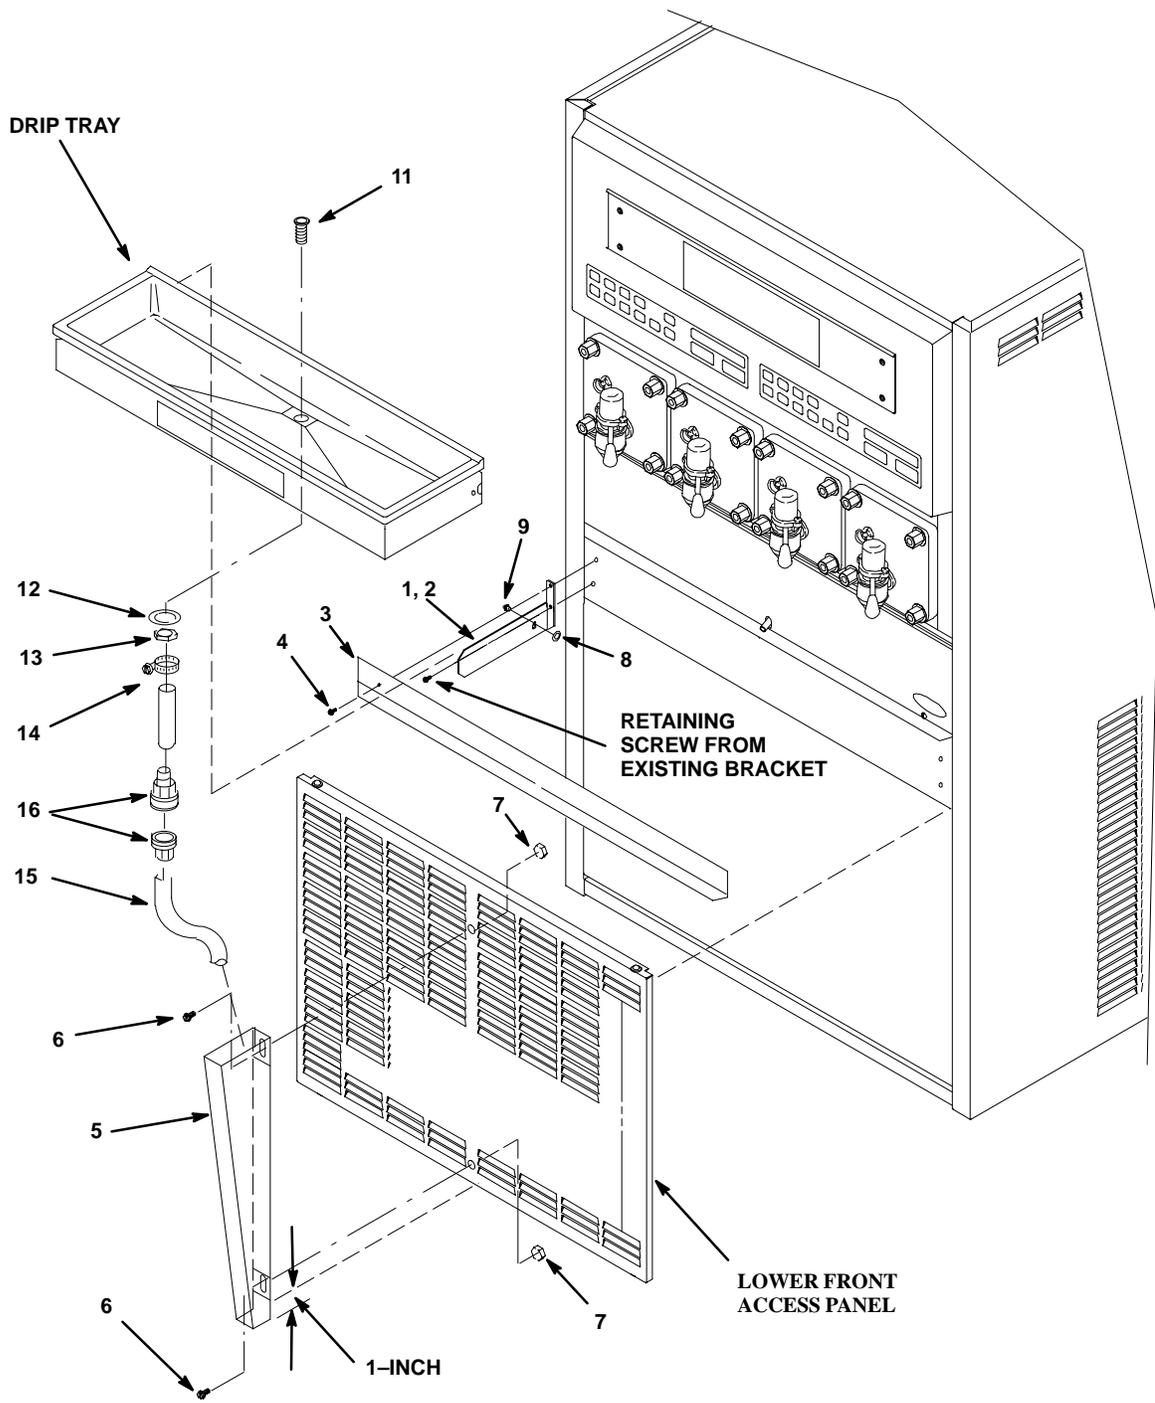

FIGURE 1.
Kit (P/N 3009) for all Four-Flavor Units and Kit (P/N 3010) for all Two-Flavor Mechanical Units (see Figure 1).
1. Hold COVER, DRAIN TUBE (item 5) in vertical position up under drip tray and in center of the front access panel. *BOTTOM OF THE DRAIN TUBE COVER MUST HANG ONE INCH BELOW THE LOWER FRONT ACCESS PANEL.*
4. Install COVER, DRAIN TUBE (item 5) on lower front access panel and secure with MACHINE SCREWS (item 6) and HEX NUTS (item 7).
8. Install CATCH BULLETS (item 9) on DRIP TRAY SUPPORTS (item 1 and 2) and secure with PUSH-ON NUTS (item 8). *REFER TO OLD DRIP TRAY SUPPORTS FOR PROPER HOLE LOCATIONS ON NEW SUPPORTS TO INSTALL CATCH BULLETS.*
10. Install DOOR ACCESS FILLER (item 3) on front of Unit and secure with MACHINE SCREWS (item 4) as shown in Figure1.
12. Install DRAIN FITTING (item 11) in drip tray and secure with LOCKWASHER, INTERNAL TOOTH (item 12) and HEX NUT (item 13).
13. Cut a five-inch piece of hose from DRAIN HOSE (item 15).
14. Install one half of the COUPLER, DRAIN HOSE (item 16) on one end of the five-inch piece of drain hose. Install other half of the drain hose coupler on the seventy-inch piece of drain hose.
15. Connect five-inch piece of drain hose to drip tray fitting. Secure connection with DRAIN HOSE CLAMP (item 14).